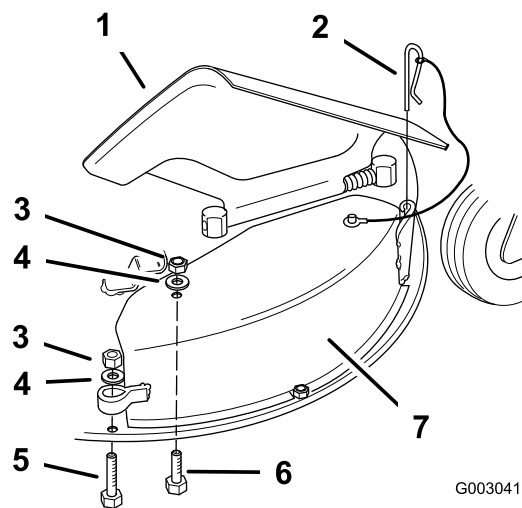

Figure 54
4. Raise the grass deflector and remove the chute pin on the front of the discharge cover (Figure 54).
5. Remove the locknut, flat washer, and bolt (5/16 x 1-1/4 inches) holding the top of the discharge cover to the top of the mower (Figure 54).
6. Remove the locknut, flat washer, and bolt (5/16 x 2-1/4 inches) holding the loop on the rear of the discharge cover to the deck ring (Figure 54).
7. Remove the discharge cover from the mower (Figure 54).